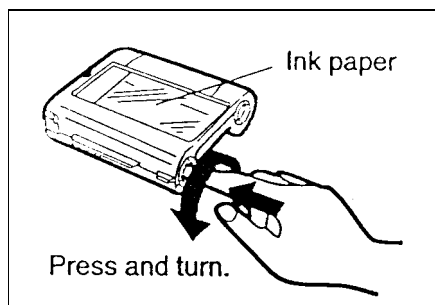

Figure 6-15. Removing Slack from Ink Cartridge
2. Remove any slack from the inked paper in the replacement cartridge by pressing and turning one of the spools (Figure 6-15).